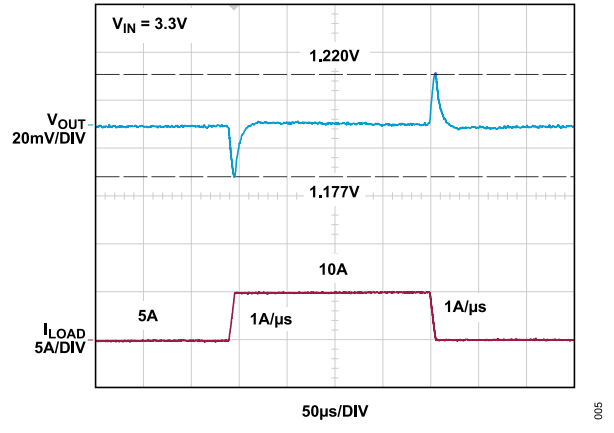

Figure 5. Load Step Response
15. Measure the I\_STEP voltage to observe the current,  $V_{I\_STEP}/20$  m $\Omega$ . Adjust the amplitude of the pulse to provide the desired transient. Connect the signal generator (SG\_INPUT) between the SG\_INPUT and GND turrets. Adjust the rising and falling edge of the pulse to provide the desired ramp rate. Figure 5 shows a load step from 5 A to 10 A. Refer to the following equations: